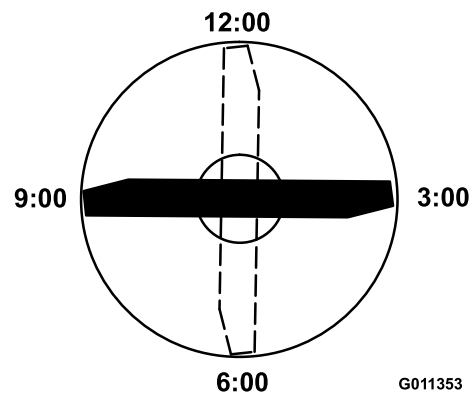

Figure 85
4. Position the cutting edge of the marked end of the blade at 12 o'clock (straight ahead in the direction of mowing) (Figure 85) and measure height from table to cutting edge of blade.
5. Rotate the marked end of the blade to the 3 and 9 o'clock positions (Figure 85) and measure the heights.